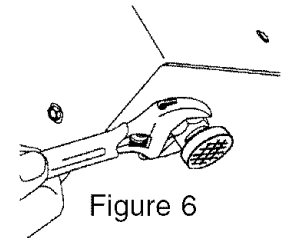

Figure 6
5. Loosen the four adjustable washer legs and lock nuts enough to fit a wrench on the lock nut. (See figure 6.) Carefully raise the washer back to an upright position.